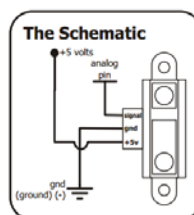

Figure 1: Sharp IR Sensor
1. Mount 1 IR sensor at TK2. Figure 1 shows an image of the Sharp IR sensor.